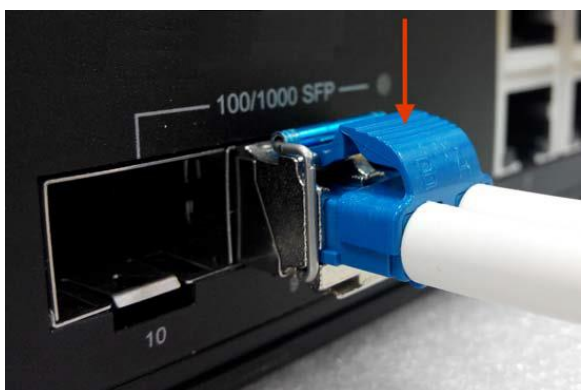

Figure 2.9 – Remove LC Connector
- **Step 1** - Press the upper side of the LC connector from the transceiver and pull it out to release as shown below in Figure 2.9.